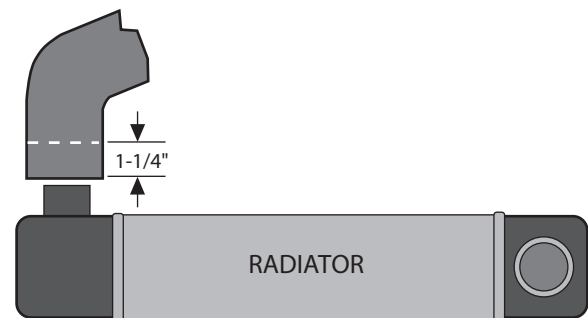

Fig. 6-a
- C. Slightly bend the high pressure air conditioning line (the line with the pressure switch located on it) towards the radiator and around the radiator hose for clearance of the supercharger pulley and belt system. (See Figs. 6-b, 6-c.)